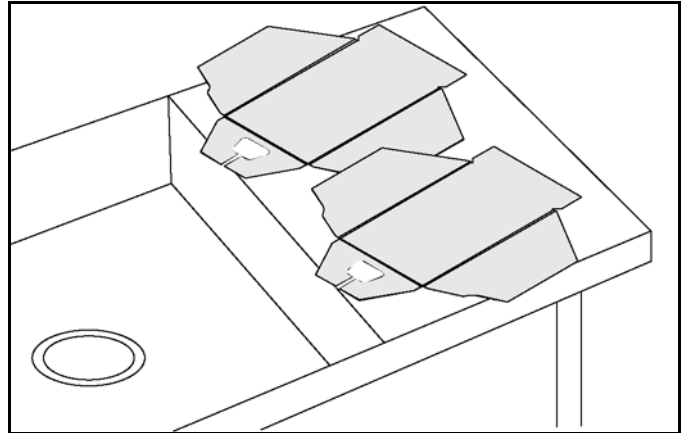

Figure-178
9. Clean the release sheets (see O&T Manual or Grill Cleaning Kay Card for details. See Figure-178.